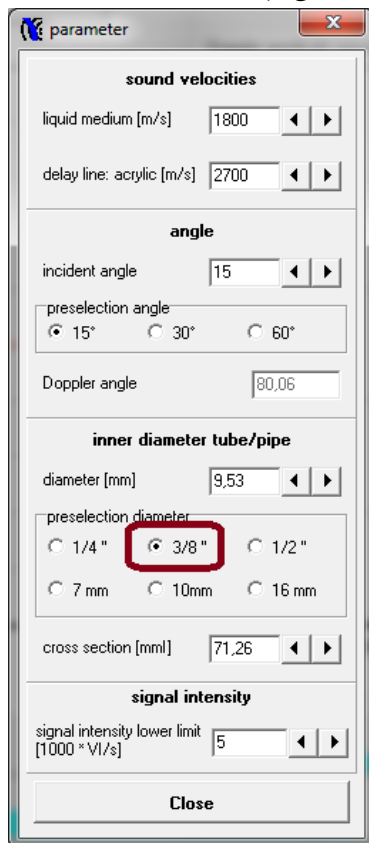

Figure 5.
6. In the FlowView programme choose the proper tube diameter in the “Parameter” tab (figure 5).